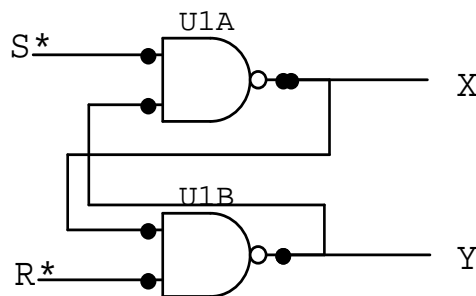

Figure 4.1: R*-S* Latch
1. Construct the circuit of Figure 4.1. Connect the R^* and S^* inputs to two Logic Bit Input Switches and its X and Y outputs to two Logic Bit Output LEDs.